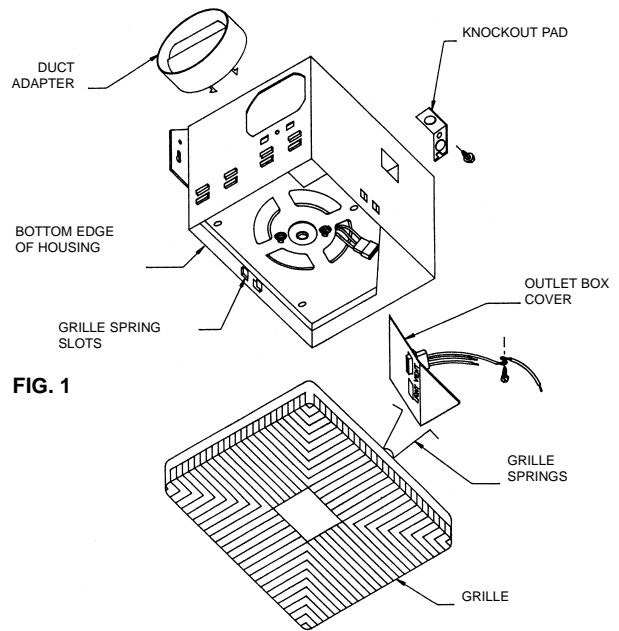

FIG. 1
4. Remove the outlet box cover from housing. See Fig. 1. Connect cables from wall switch/switches to receptacle wires using approved wire connectors. Connect ground wire to green wire in outlet box. Replace outlet box cover insuring locking tab is engaged. See Fig. 4 for wiring diagrams. **CAUTION: Be sure all wiring complies with local and national electrical codes and housing is properly grounded.**
6. After sheetrock and plaster has been put up, install grille to housing by squeezing grille springs and inserting into slots in-side the housing. See Fig. 1.